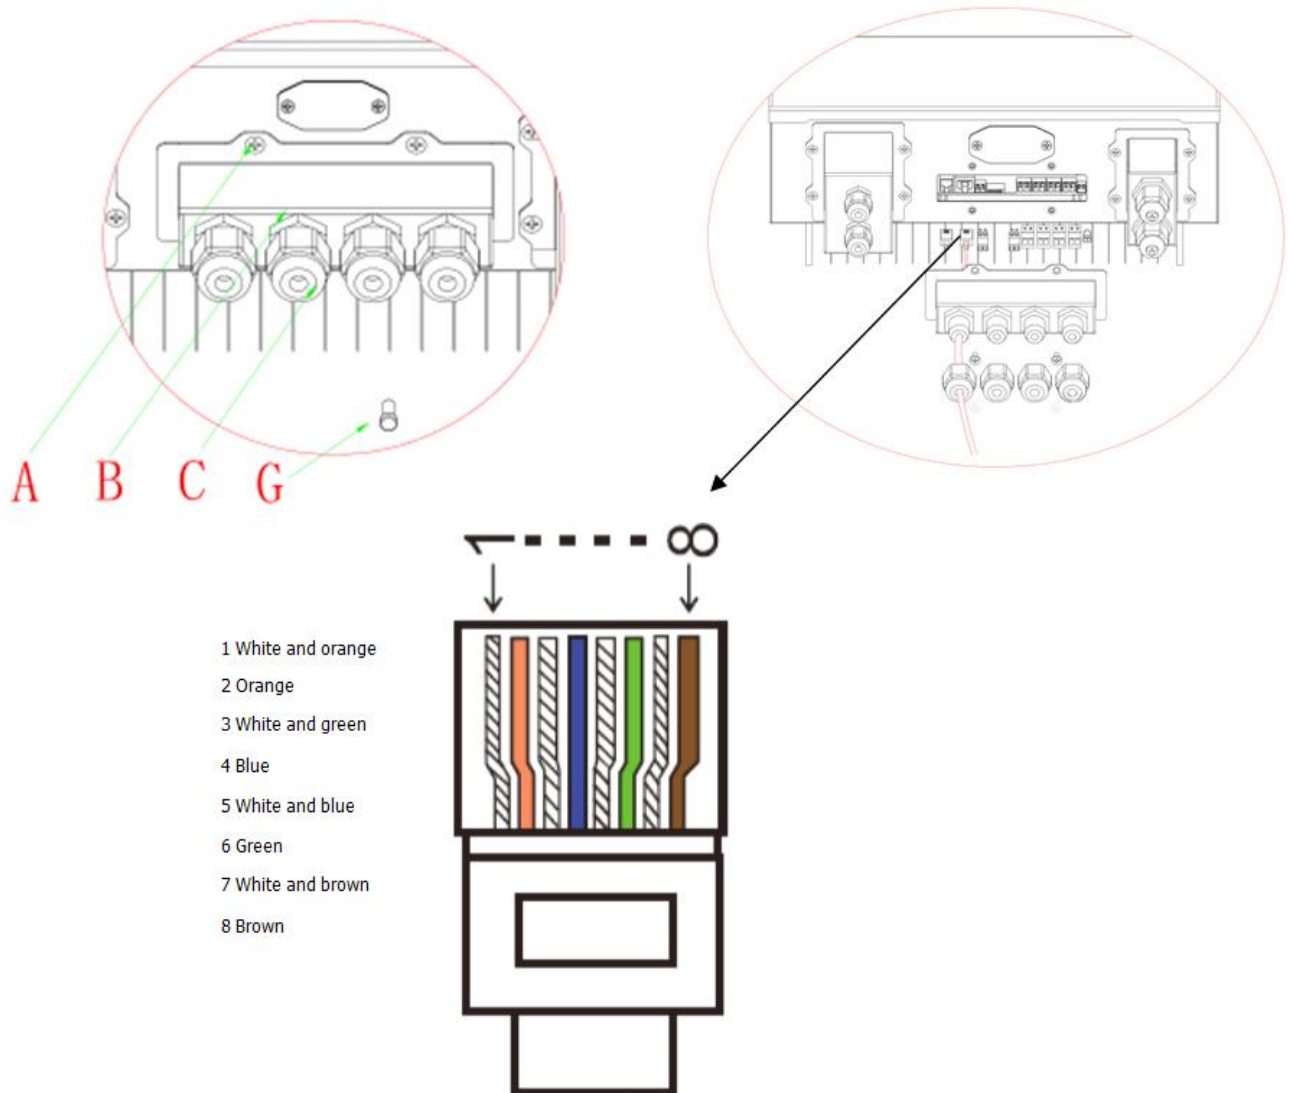

Fig. 7 Inverter logic interface connection
Step 1: Loosen 4 screws (A) using a screwdriver (fig. 7);
Step 2: Remove the waterproof cover (B), Loosen the cable gland (C), and then remove the stopper (G);